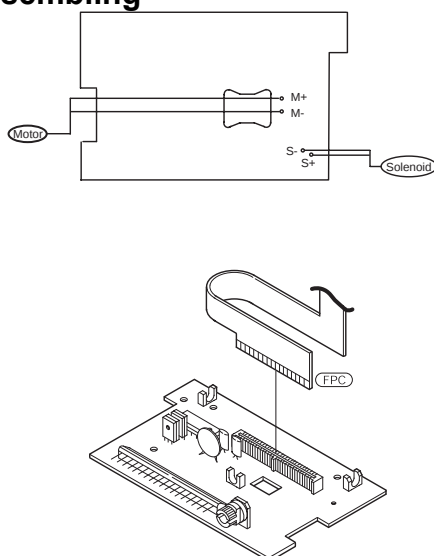

Figure 4-3
4. Separate the FPC of head from the connector on the Printer PCB.(Figure4-3)
5. Separate the Motor Wire and Solenoid Wire under the Printer PCB. (Figure4-3)
6. Remove the 3 screws under the Printer PCB for separating the PCB from the Frame Assembly. (Figure4-3)